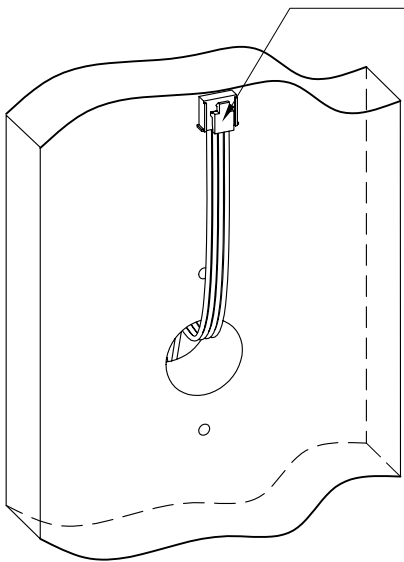

Figure 10
2. Gently pull on the cable to ensure there is no excess cable in the hole and place the cable as shown in Figure 10.